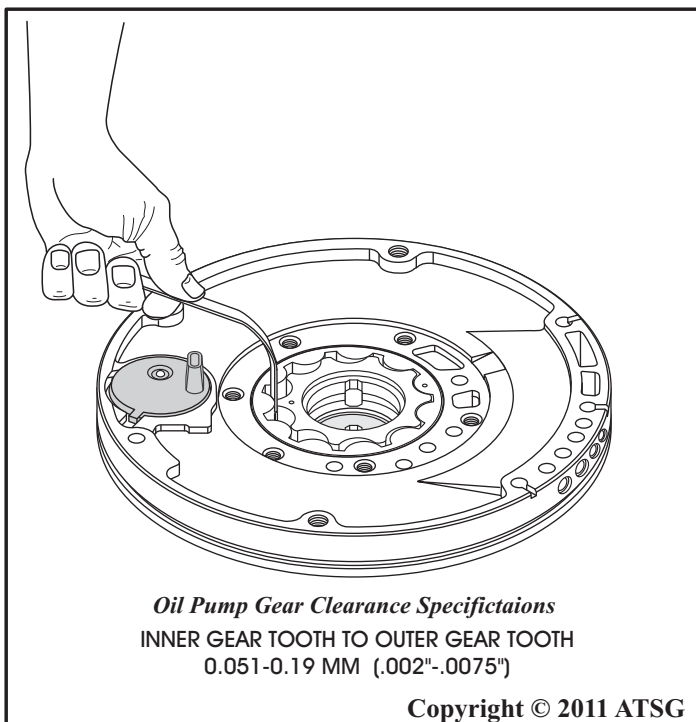

Figure 105
11. Check clearance between inner gerotor tooth and outer gerotor tooth, as shown in Figure 105, and proper clearance is also shown in Figure 105.